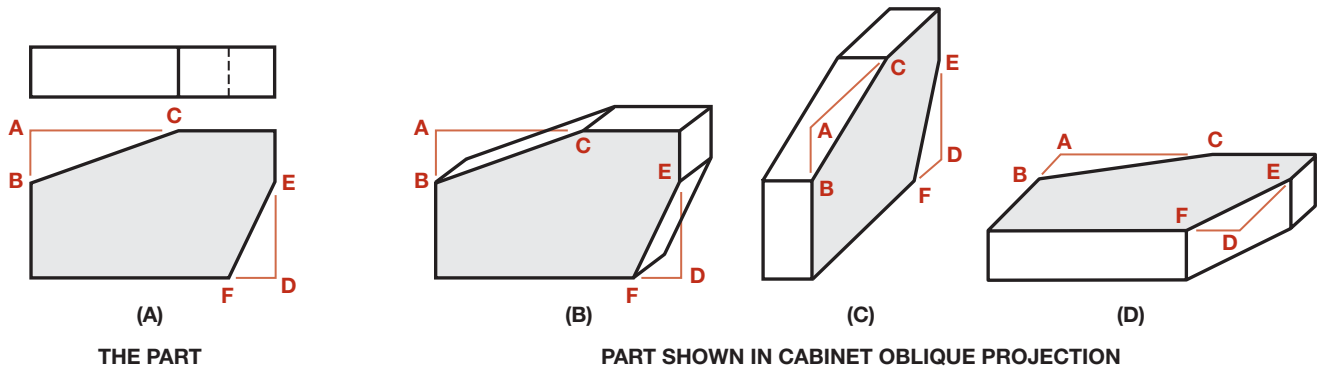

FIGURE 7-11 ■ Drawing inclined surfaces.
A part with notched corners is shown in Figure 7-11(A). An oblique drawing with the angles parallel to the picture plane is shown in Figure 7-11(B). In Figure 7-11(C) the angles are parallel to the profile plane. In each case, the angle is laid off by measurement parallel to the oblique axes, as shown by the construction lines. Because the part, in each case, is drawn in cabinet oblique, the receding lines are shortened by one-half their true length.